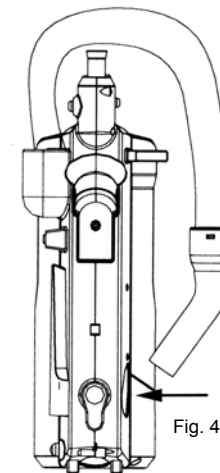

Fig. 4
- Insert the hose into the hose connector. (Fig. 4)